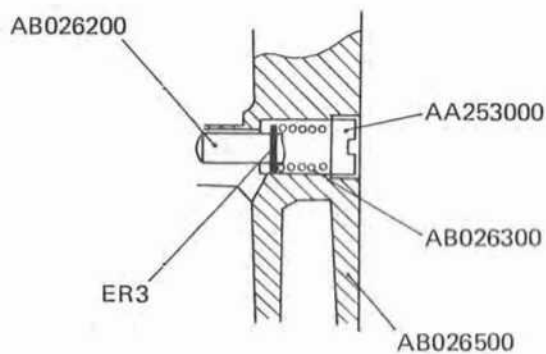

Fig. 8-1
- 8-1-1 After applying Grease OT2008, assemble Shaft AB026200 in position. (See Fig. 8-1.)
- 8-1-2 After applying Grease OT2008, assemble Spring AB026300 in position. (See Fig. 8-1.)
- 8-1-3 Tighten Screw AA253000 in position. (See Fig. 8-1.)